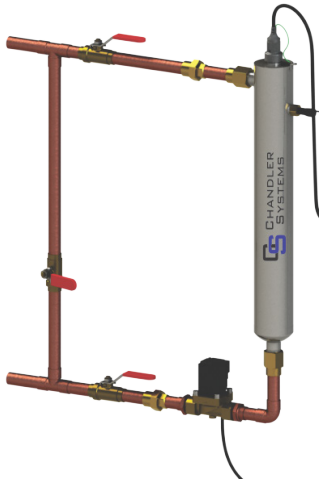

Figure 3. By-pass assembly
Step 2: The use of a by-pass assembly is recommended as it will allow you to isolate the UV reactor. This will allow for easier access in case maintenance is required (See Figure 3).